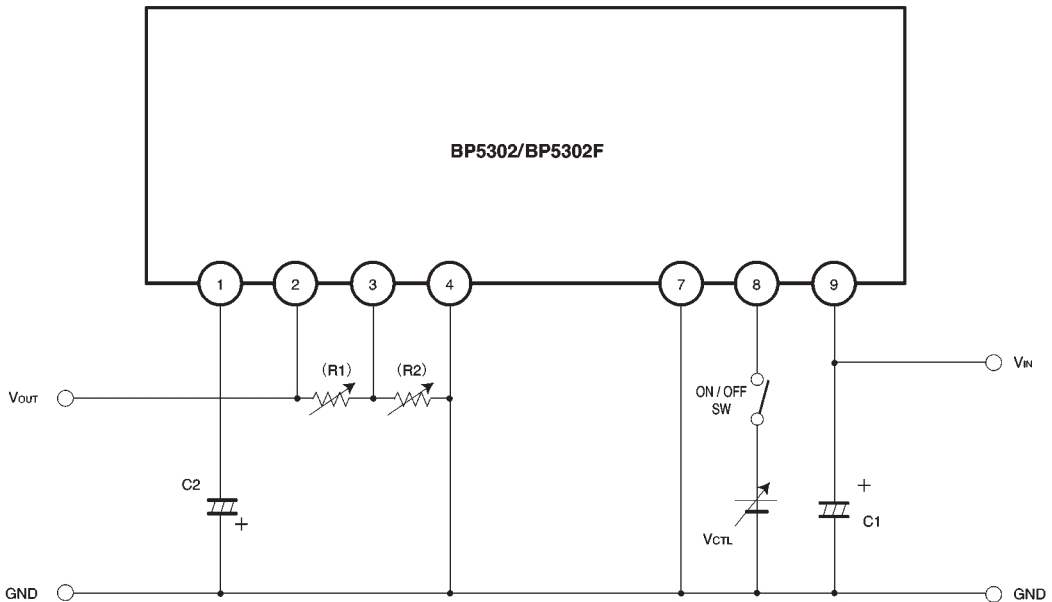

Fig. 1
- Electrical characteristics (unless otherwise noted, Ta = 25°C and R1 and R2 resistors in the measurement circuit of Fig. 1 are disconnected)